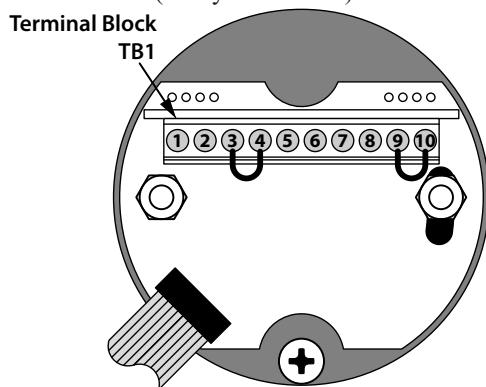

Figure 5: VAC Jumper Tie Installation
- See Figures 5, 7, 8, 9, and 10 for wiring configurations.